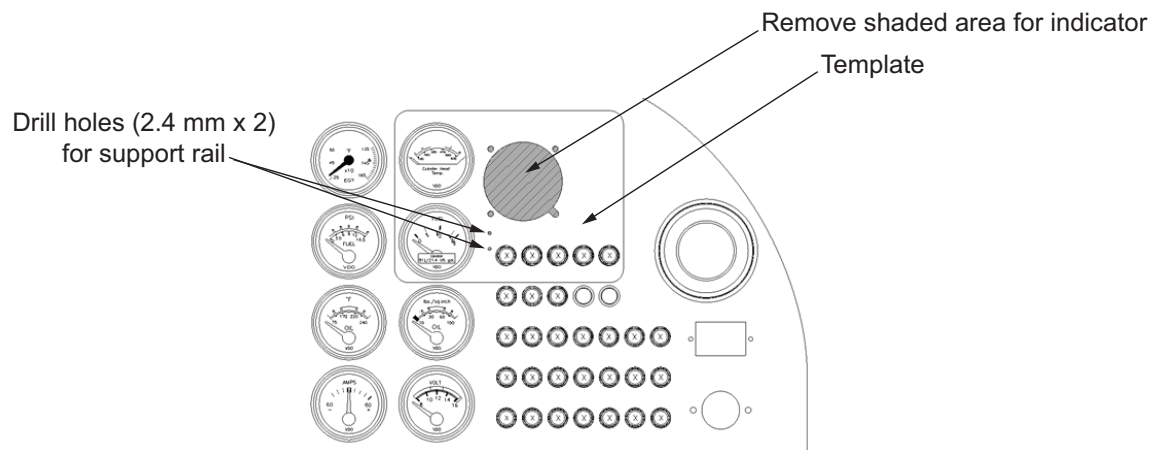

Figure 7
- 10.7 Use the Template provided in this SB to locate and drill holes for the artificial horizon and a support rail (2.4mm). Refer to Figure 7.